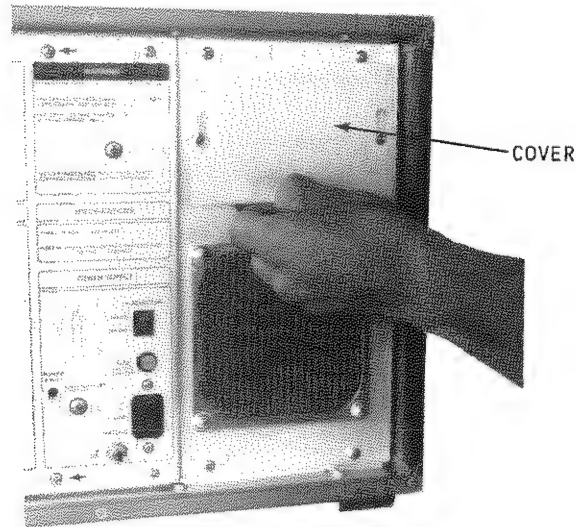

Figure 21. Removing System-Side Access Cover.
This section describes the procedure for routing cables or wires into the card cage for connection to feedthrough panels. The procedure steps are listed here and depicted in Figures 21 through 25.
1. Remove the system-side access compartment cover (Figure 21).